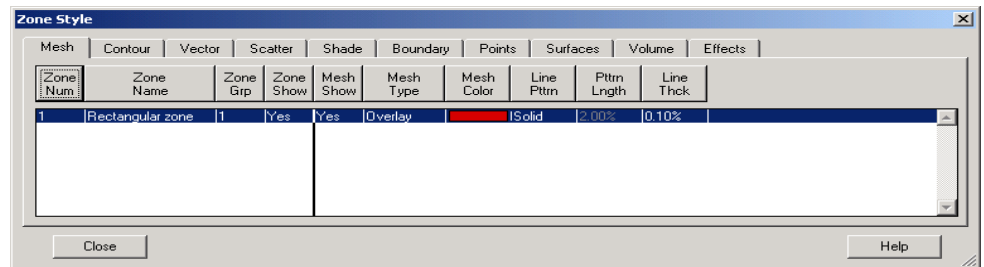

Figure 7-7. The Mesh page of the Zone Style dialog.
1. Call up the Zone Style dialog via the Plot menu or the Zone Style button on the sidebar. The Mesh page of the dialog is shown in Figure 7-7.